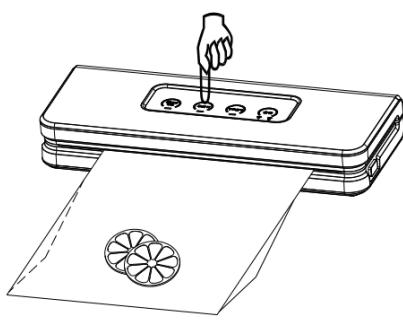

Figure 7
3. Press the Seal Button (**as shown in Figure 7**), and the appliance will complete the process automatically;